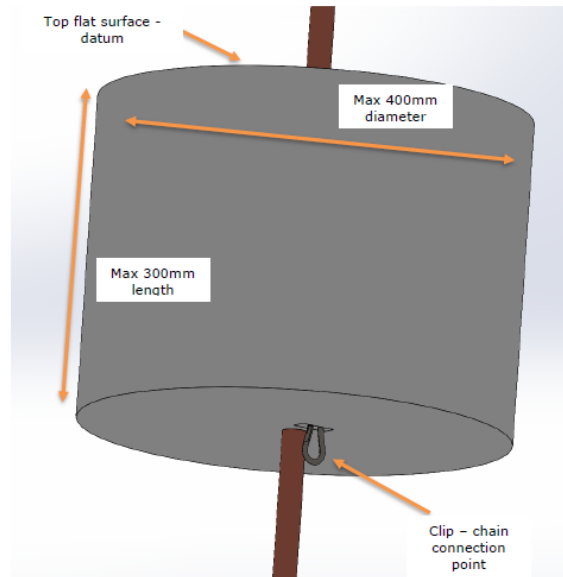

Figure 2. Maximum envelope, pipe and standard connecting clip
1. The device can be of any type, but it must be completely self-contained and fit within a working envelope of 400mm diameter 300mm length maximum, excluding the automatic clip – see below *Figure 2*.
12. The device shall include a single 50mm automatic clip – carabineer similar to www.screwfix.com 334FE as attachment of the load chain (Figure 5). This shall be included in BoM and considered as part of the vehicle, for both mass and cost considerations. The clip can protrude outside the maximum envelope, see Figure 2.